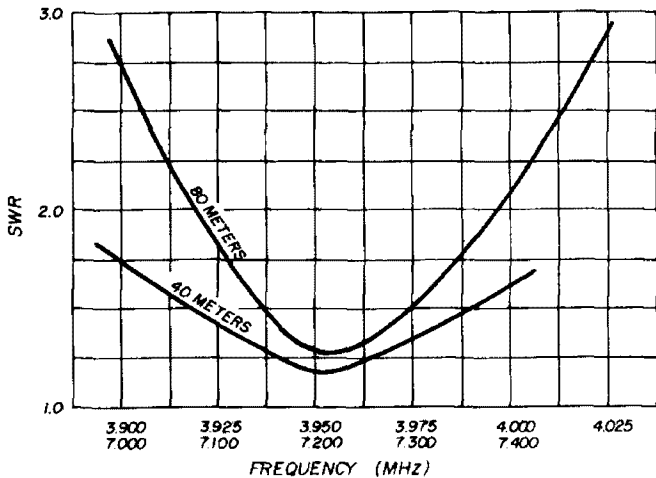

fig. 4. Standing wave ratio versus frequency for the compact dual-band dipole. Curves were optimized for antenna height.
Taking an swr of 2:1 as par, the plot of fig. 4 shows the swr of the dual-band dipole when operated at optimum height above ground. The data for these curves was taken at the end of a 100-foot length of 50-ohm coaxial cable.
The 80-meter antenna is a different breed of cat. Because of folding, the 80-meter dipole's radiation resistance is lower. It's about 60 percent of the usual measured value at all heights above ground. The 80-meter antenna plot of fig. 4 occurred at about 50 feet and remained reasonably constant down to 40 feet. Below this height, minimum swr increased rapidly, tending to decrease the over-all bandwidth.
Accepting these facts of life, I finally mounted the antenna so that the flat top was about 45 feet high. The 40-meter-band swr wasn't as good as shown in fig. 4; however, it remained below 2:1 from
7.1 to 7.3 MHz It was still acceptable at 7.0 MHz, as no equipment-loading problems were encountered at this frequency. The 80-meter swr values were as shown in fig. 4.